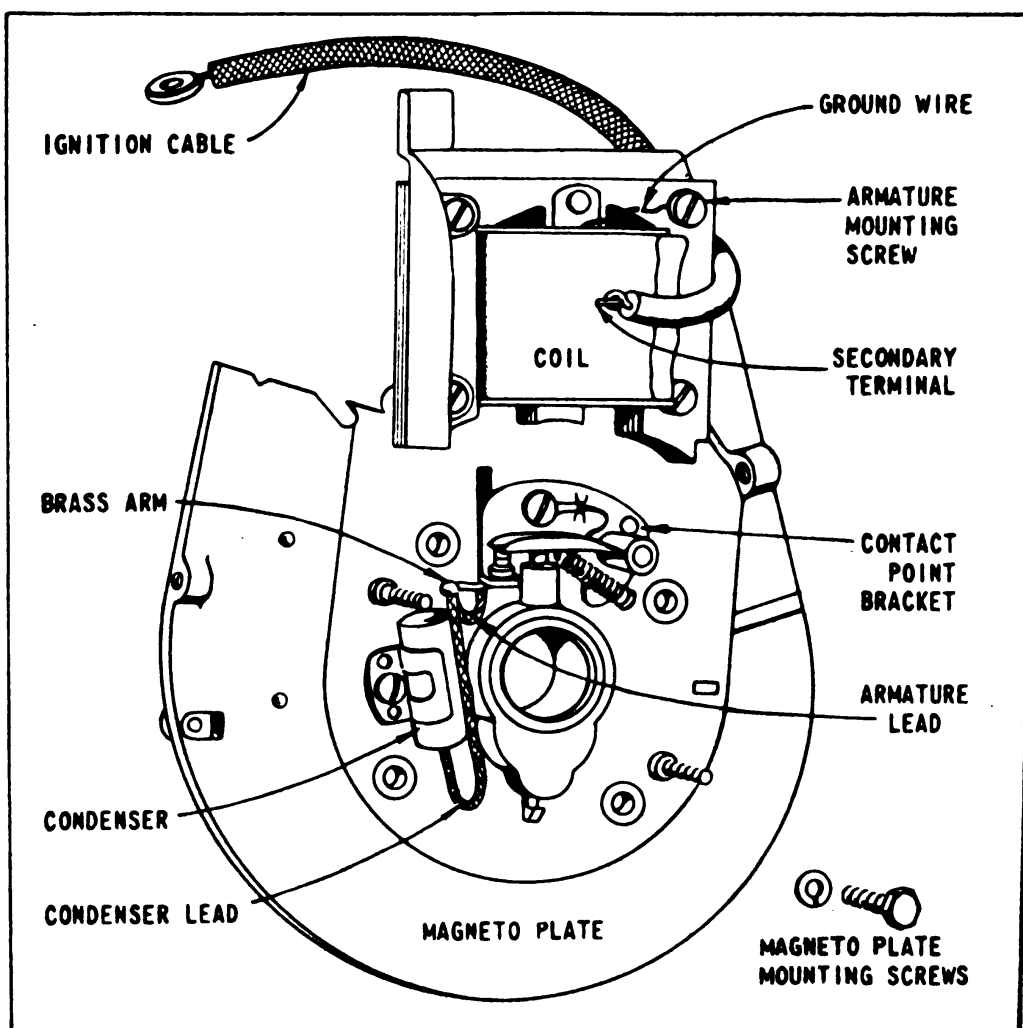

Figure 15.—Complete Magneto assembly
d. Ignition cable.—The cable is shielded to prevent radio interference. The insulation must be kept free of oil or water, and must not be broken. Any of these conditions may cause ground connection to the engine and will interfere with good ignition. To check cable all the way to the magneto it is necessary to remove blower case. Ignition cable should be securely bound to the secondary terminal loop of the coil (fig. 15).
A leaky or weak magneto condenser may cause the engine to start hard, to sputter or misfire under load. If engine misfires after you have checked gasoline line, carburetor, spark plug, cable and contact points, install a new condenser. Both the condenser lead and armature lead must be soldered to the brass arm (fig. 15). Be sure to push condenser lead down between condenser and hub of magneto plate so it cannot rub against flywheel. If, after new condenser has been installed, the ignition system still does not deliver a satisfactory spark, replace the complete magneto unit.
from coil are soldered to brass arm on contact bracket (fig. 15) Replace mounting screws, insert the loop of the ground wire under screw and draw screws up tight.